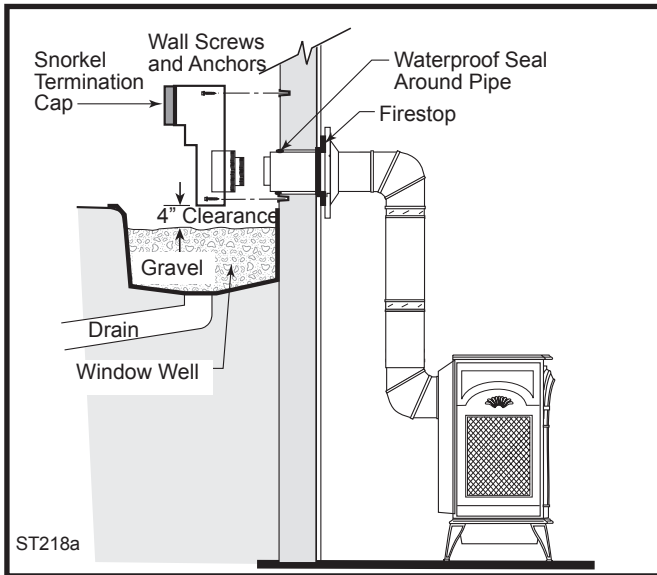

Fig. 30 Snorkel kit installation.
Install Snorkel #7TDVSNORK when it is not possible to meet the required vent termination clearances of 12" (305mm) above grade level. The snorkel kit will allow installation depth of down to 7" (178mm) below grade level. The seven inches is measured from the center of the horizontal vent pipe as it penetrates the wall. **If the venting system is installed below grade, a window well must be installed with adequate and proper drainage.** (Fig. 30)
2. Remove soil to a depth of approximately 16" (400mm) below the base of the snorkel. Install a window well (not supplied). Refill the hole with 12" (305mm) of coarse gravel and maintain a clearance of at least 4" (102mm) below the snorkel. (Fig. 30)